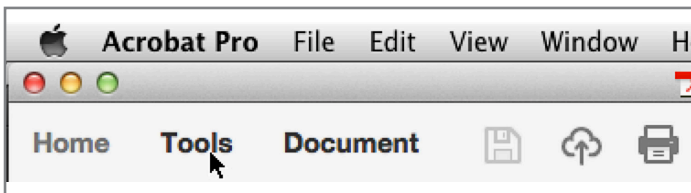

Figure 50
2. Close the Preferences, and open the document you wish to preview. Select Tools as shown in Figure 50.